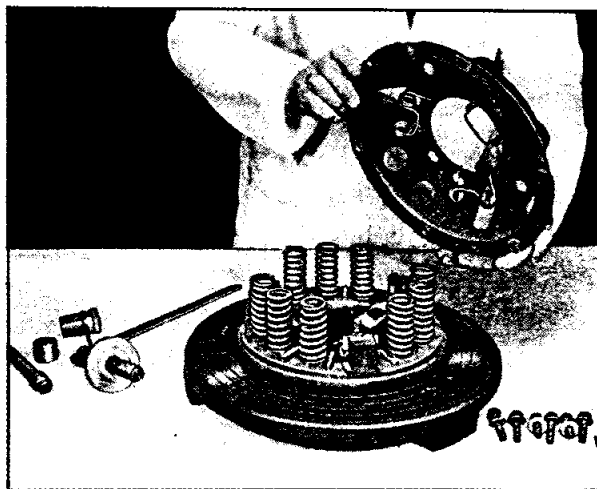

Fig. 12 Cover pressing with anti-rattle springs fitted ready for final assembly.
- (h) Place springs on their seats on the pressure plate, followed by cover pressing (Fig. 12).